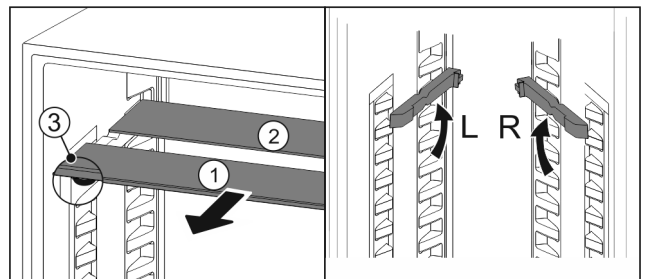

Fig. 25
- Pull the glass panels out Fig. 25 (1) from the front, one at a time.
- ▷ The glass panel Fig. 25 (1) and trim strip are at the front.
- ▷ The stops Fig. 25 (3) point down.